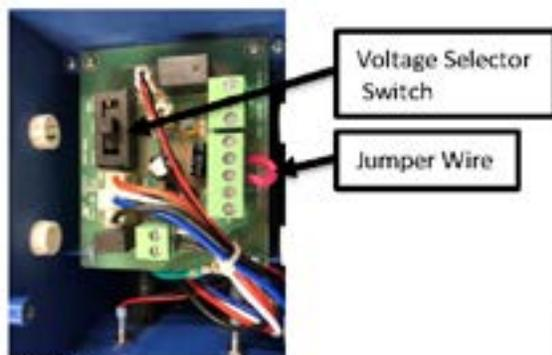

FIGURE 15
WARNING – DO NOT CONNECT POWER UNTIL VOLTAGE SELECTOR SWITCH INSIDE HOUSING IS CONFIRMED TO BE IN THE CORRECT POSITION FOR THE PRIMARY POWER BEING APPLIED (See FIGURE 15).
The GPS-iMOD system requires a total of 15 watts to power up to 6 GPS-iMODs at any length. The power supply will accept 24VAC, 115VAC or 208-240VAC at 50HZ or 60HZ. CAUTION!! The power supply has an internal voltage selector switch set to 115VAC from the factory, as shown in FIGURE 15. If 24VAC or 208-240VAC is required, move the selector switch to the proper position as shown on the circuit board or inside cover of the power supply lid. DO NOT APPLY POWER until the switch position matches the power supplied. Based on voltage input or local codes, the 3-prong plug may be cut off and the three wires are as follow: White = Neural, Black = 24V, 110V or 208-240V (based on switch position) and Green = Ground.
1. Remove the red jumper wire between C and NO on the GPS-iDetect-P terminal block (see FIGURE 15 for jumper wire).